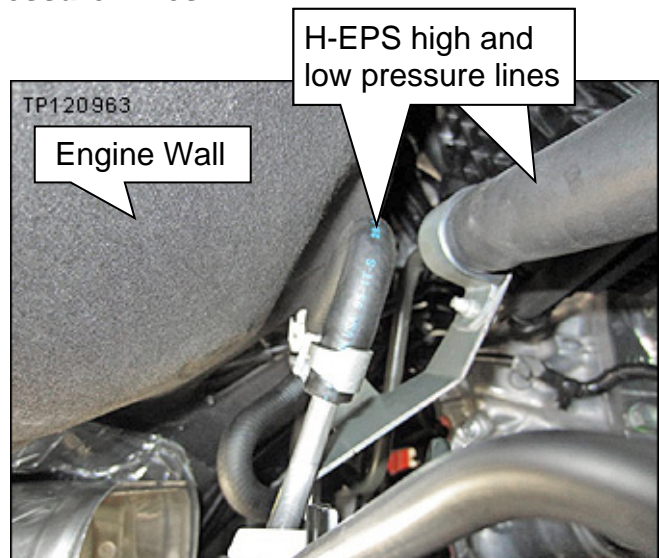

Figure 10
- a. Check the area circled in Figure 10.